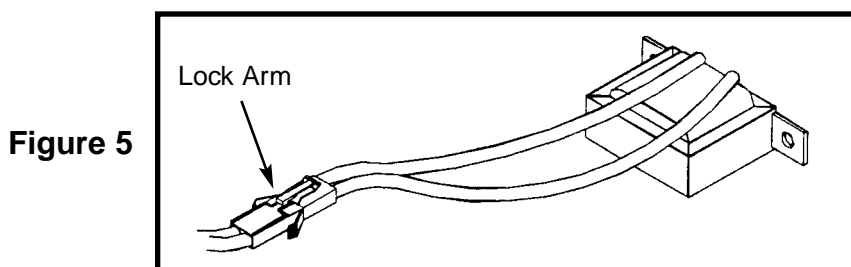

Figure 5
6. Connect the male and female housing as shown in Figure 5. Note that the connector only fits together one way.